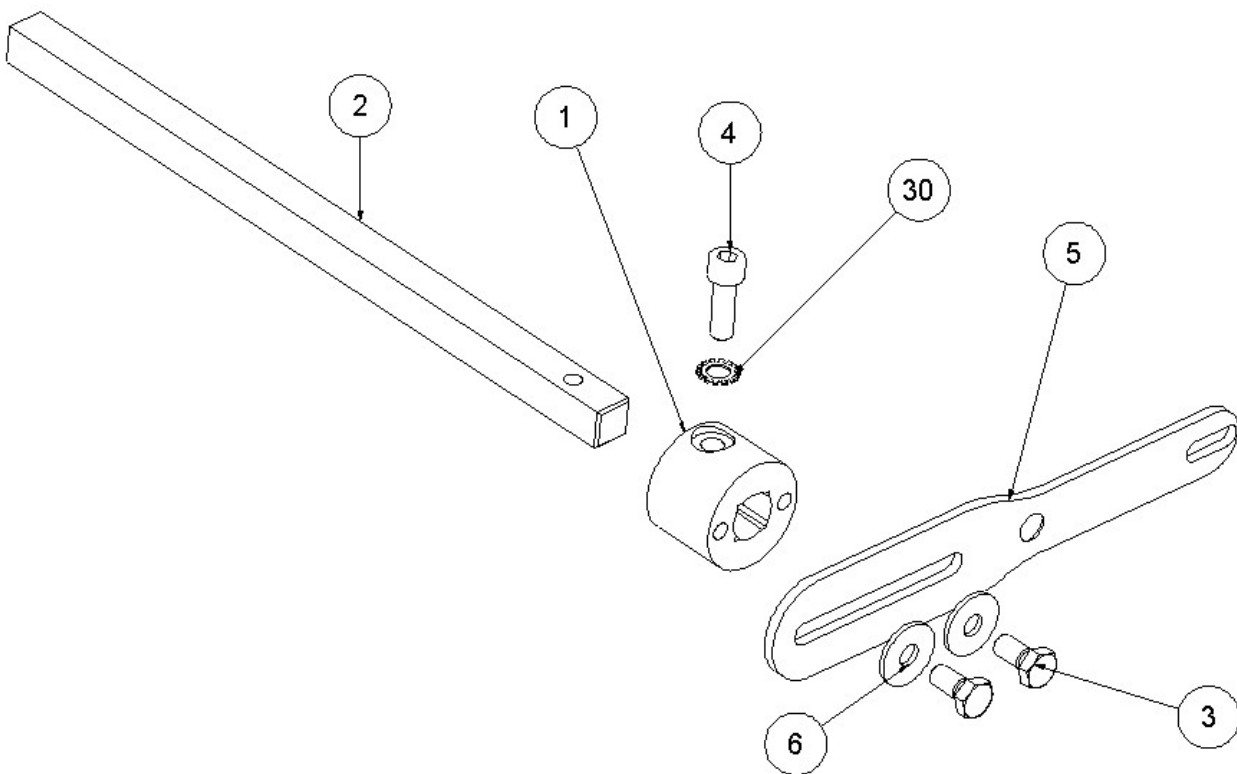

Figure.2
2. **ARMS AND HANDLES ASSEMBLY:** Each arm (2) must be joined to an arm support (1) through a screw DIN 912 M8x25 (4) and a serrated washer DIN 6798 M8 (30). Once together, they must be joined to a handle (5) through two M8 x 16 DIN 933 8.8 (3) screws and two washers DIN9021 M8 (6), making sure that the countersink of the handle is on its inner face, – Fig. 2 –.